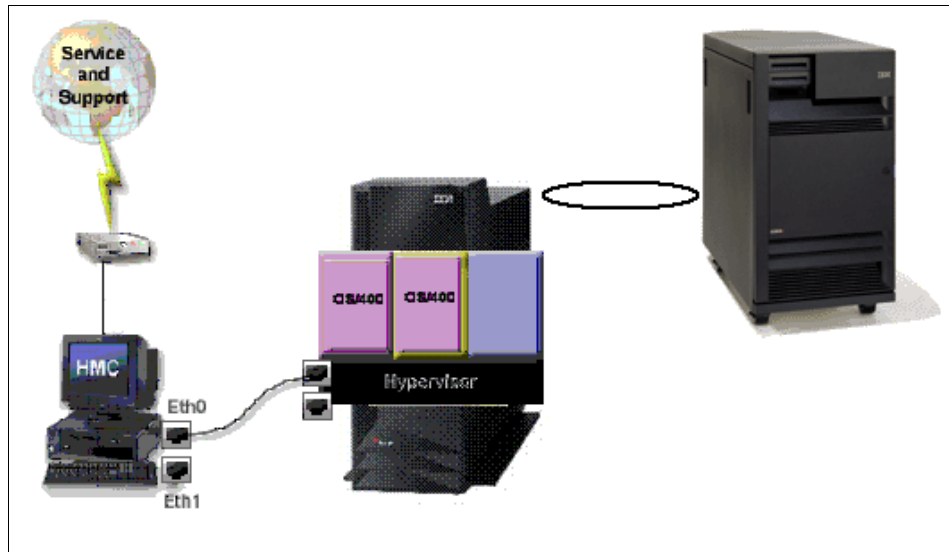

Figure C-10 Example of i5 System
4. After the LPAR configurations are migrated as shown in Figure C-10, correct any resource reallocations resulting from P0/Primary being reassigned. Allocate new hardware resources as required. Validate the new Pn+1 partition (former primary) against the configuration and resource allocation documentation gathered in early steps.